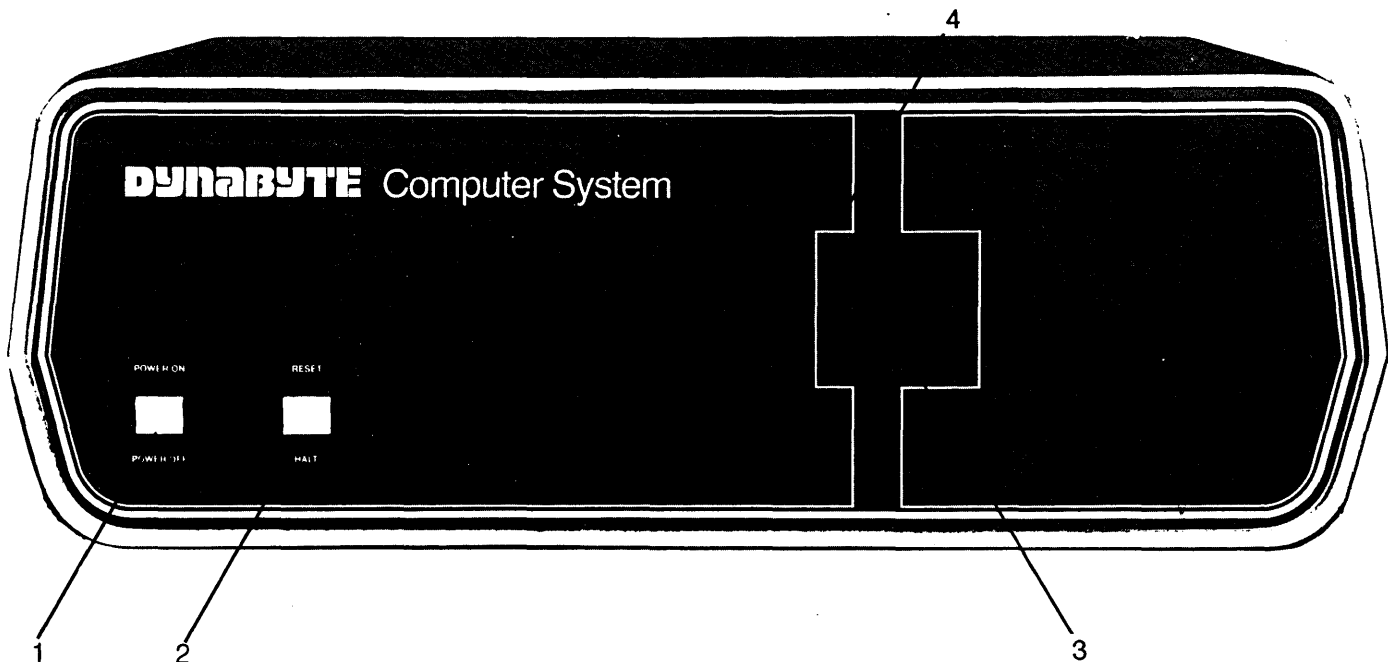

Figure 2-1 — 5505 Computer, Front Panel 807129
2.04 Figures 2-1 and 2-2 provide number key callouts of all components located on the front, rear and interior of the 5505. Associated Tables 2-1 through 2-3 provide a cross reference for each callout, identifying the respective part as to function, description and/or designation.
2.05 Refer to Figure 2-1 for the description which follows. The 5505 Computer Front Panel has only two operating controls with which the user should be concerned.